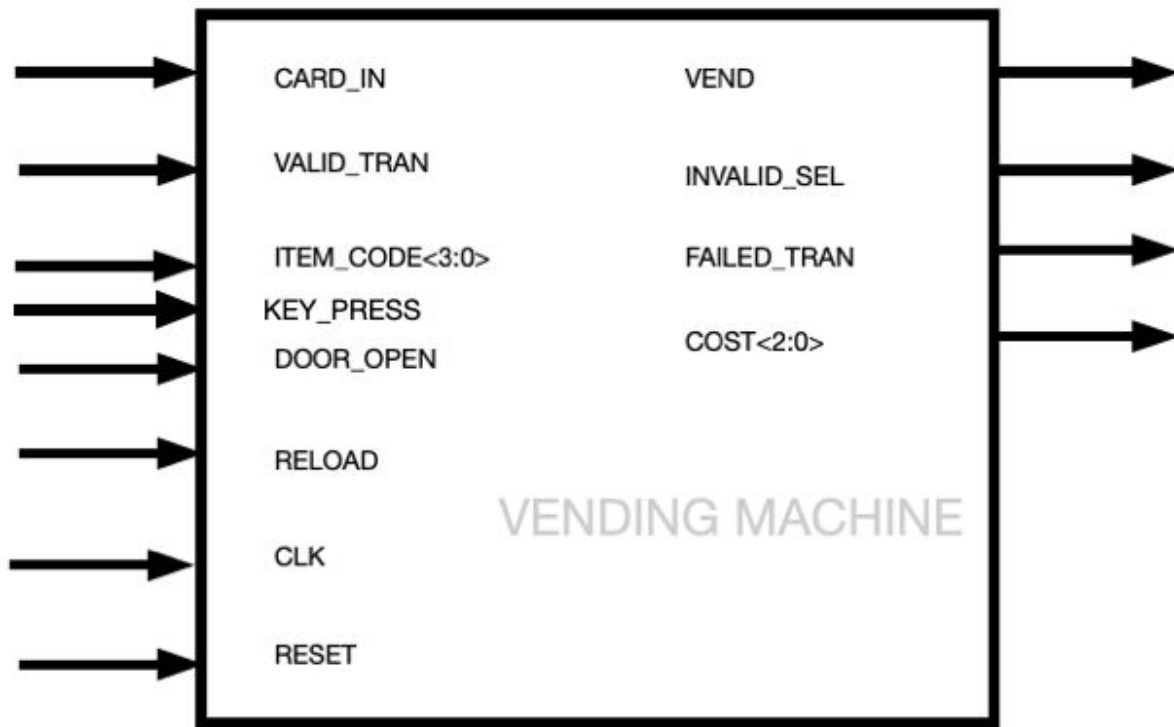

Figure 3 : VENDING MACHINE I/O
The I/O of the module vending_machine should be exactly as shown in Figure 3.
2. **Verilog source code** for the "vending_machine" module. The file should be named exactly as "vending_machine.v" and the module and port names should exactly match names defined in Figure 3. It is very important as your code is automatically evaluated. Also note that this code should be completely synthesizable. ***There is no restriction on the naming of the submodules (if any) but make sure to place all the submodules in the vending_machine.v file.